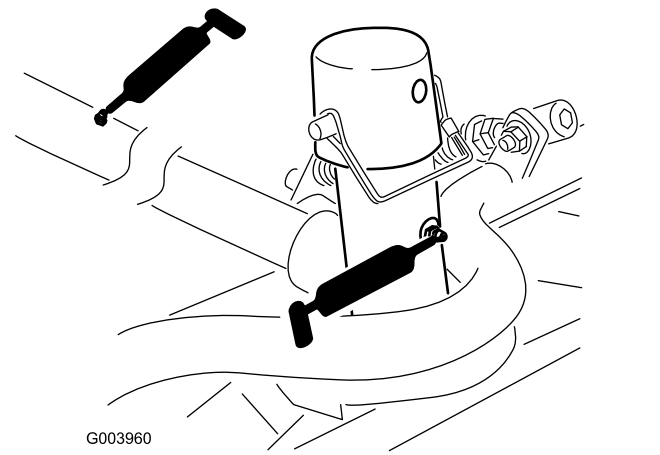

Figure 75
- Cutting-unit carrier-frame and pivot (2 each) (Figure 75)